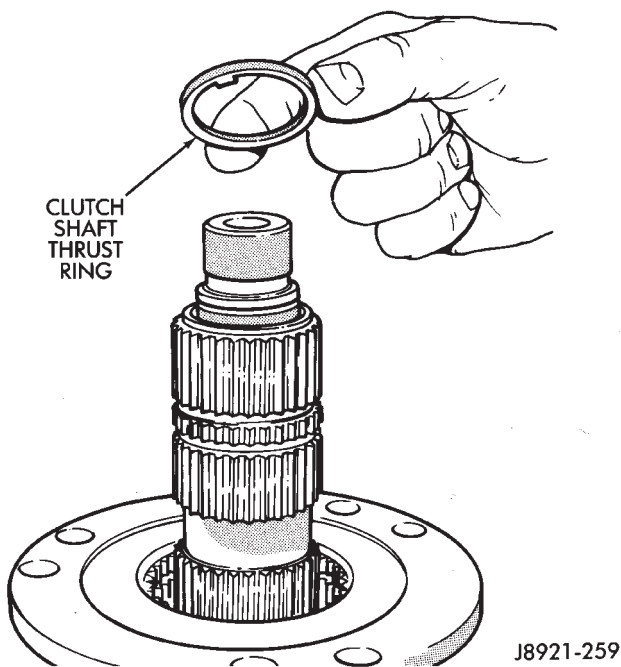

Fig. 60 Installing Clutch Shaft Thrust Washer
(37) Install clutch shaft thrust washer (Fig. 60).